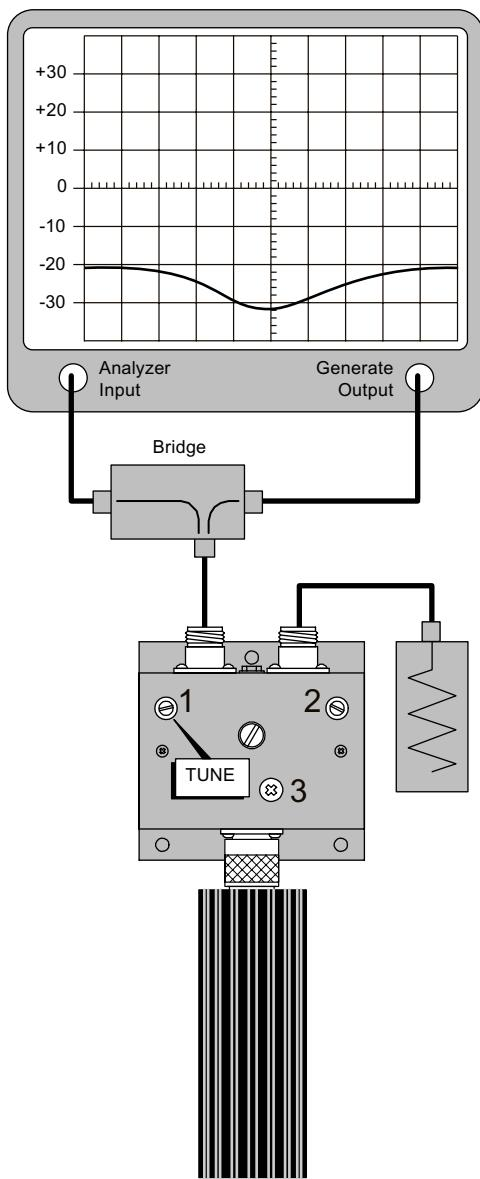

Figure 4: Tuning for max return loss (in port).
- 4) With the equipment connected as in **Figure 4**, adjust tuning capacitor #1 for maximum return loss at the desired center frequency.